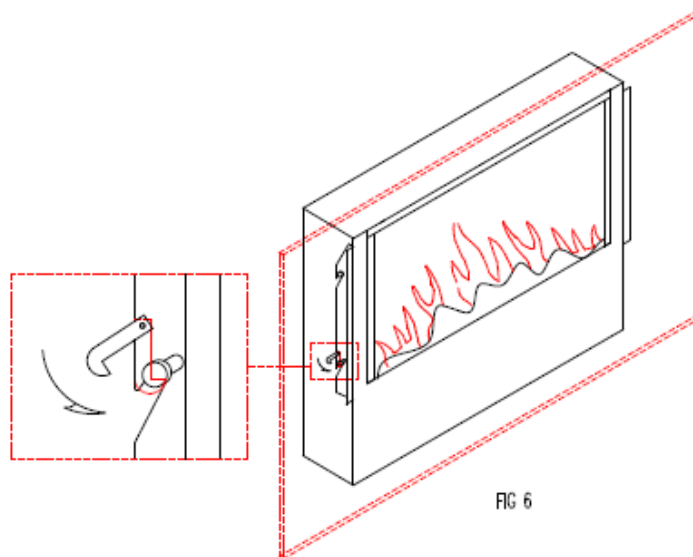

FIG 6
3. Lift the face up to the fireplace. Then lower the face into place so that the brackets on the rear of the face locate either side of the studs on the fireplace. Once in place firmly tighten the locking bolt. (**Figure 6**)